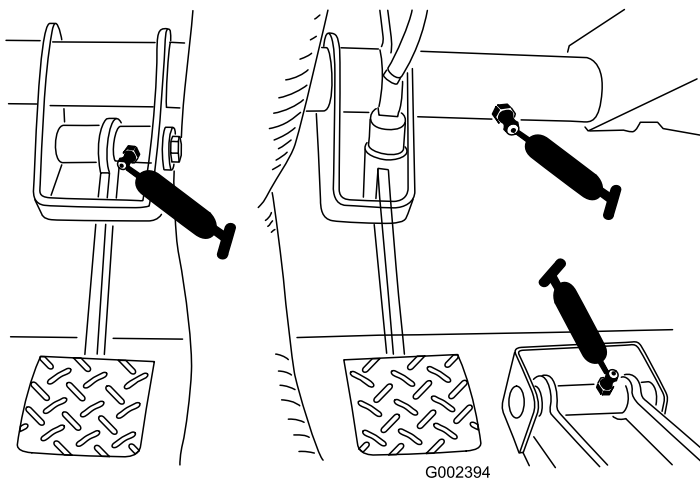

Figure 31
- Brake (1); refer to Figure 31
- Clutch (1); refer to Figure 31
- Accelerator (1); refer to Figure 31